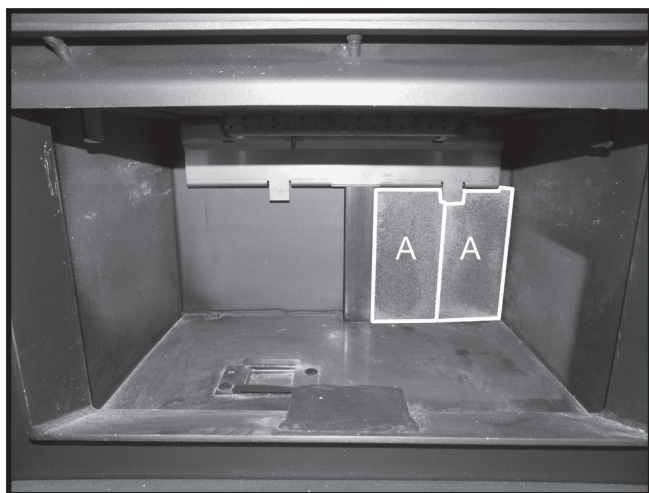

Figure 15: Right side rear wall brick A placement.
1. Stand two "A" firebricks vertically behind the right tab located on the brick rail. Slide the firebrick toward the center of the rear wall (Figure 15).